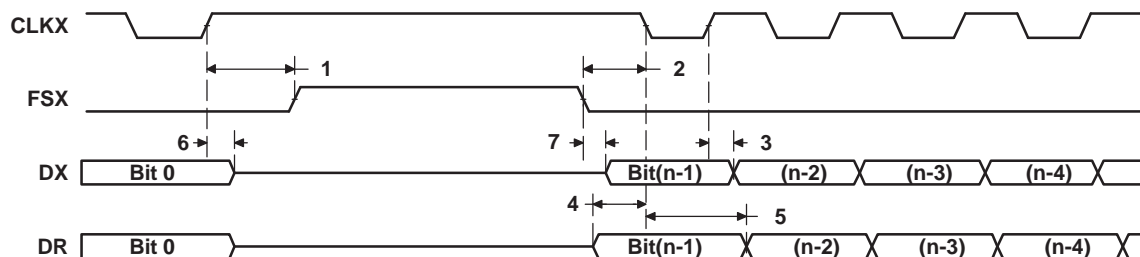

Figure 6-30. McBSP Timing as SPI Master or Slave: CLKSTP = 11b, CLKXP = 1
(see Figure 6-30)
- (1) P = SYSCLK3 period in ns. For example, when running parts at 600 MHz, use P = 10ns.
- (2) For all SPI Slave modes, the rate of the internal clock CLKG must be at least 8 times faster than that of the SPI data rate. User should program sample rate generator to achieve maximum CLKG by setting CLKSM = CLKGDV = 1.
Table 6-50. Switching Characteristics Over Recommended Operating Conditions for McBSP as SPI Master or Slave: CLKSTP = 11b, CLKXP = 1⁽¹⁾ (2) (see Figure 6-30)